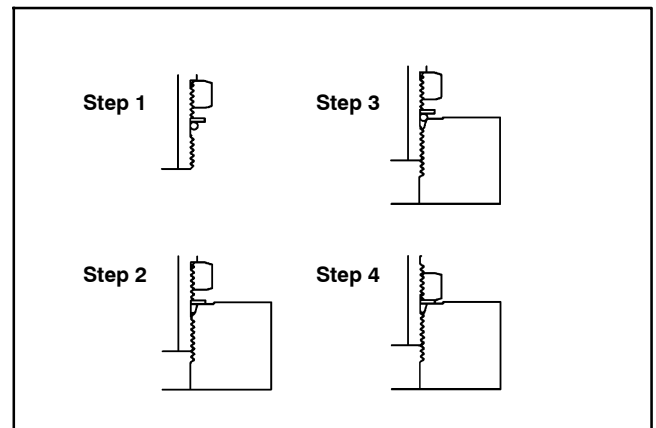

Figure 10
4. Turn back the lock nut as far as possible. Make sure the back up washer is not loose and is pushed up as far as possible (Step 1 in Figure 10).
5. Install the fitting into the port and tighten finger tight until the washer contacts the face of the port (Step 2 in Figure 10). Make sure that the fitting does not bottom in the port during installation.
6. To put the fitting in the desired position, unscrew it by the required amount to align fitting with incoming hose or tube, but no more than one full turn (Step 3 in Figure 10).
8. If a torque wrench is not available, or if space at the port prevents use of a torque wrench, an alternate method of assembly is the Flats From Finger Tight (F.F.F.T.) method. Hold the fitting in the desired position with a wrench and, if port material is steel, tighten the lock nut with a second wrench to the listed F.F.F.T. (Step 4 in Figure 10). If port material is aluminum, tighten fitting to 60% of listed F.F.F.T.